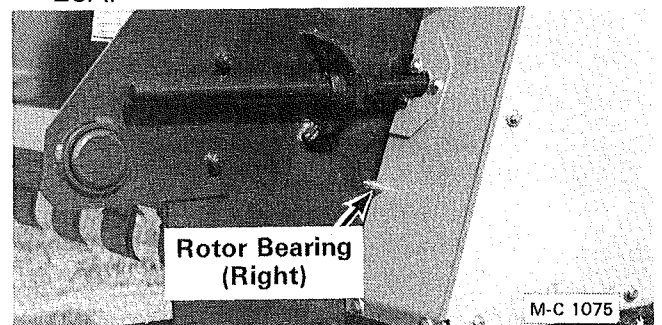

Figure 18 – Rotor End Bearing – Left Side Same
2. Rotor bearings. One fitting on each end of rotors. See Figure 18.